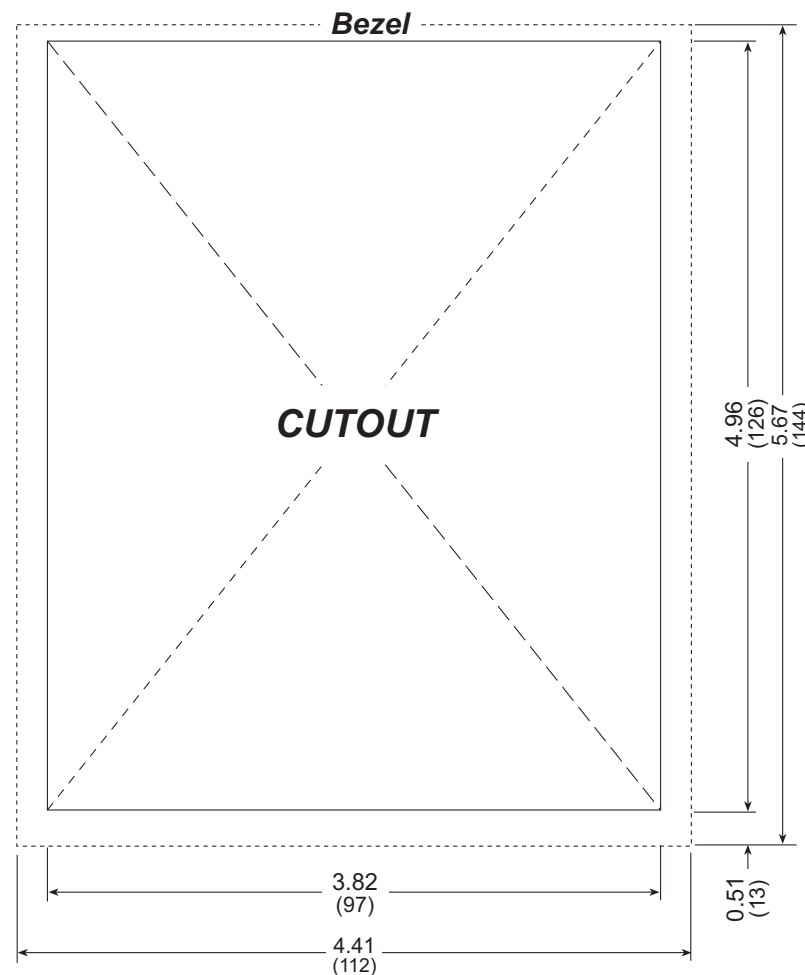

Figure 22. Recommended Cutout Dimensions
1. Cut a mounting hole in the mounting panel in accordance with the recommended dimensions in Figure 22, then use the bezel faceplate to mount the OP7200 onto the panel.